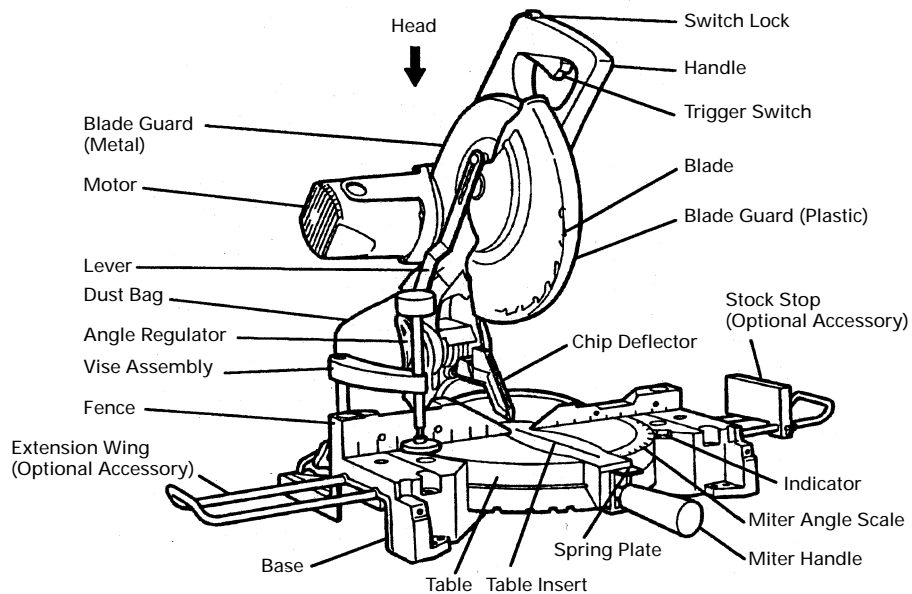
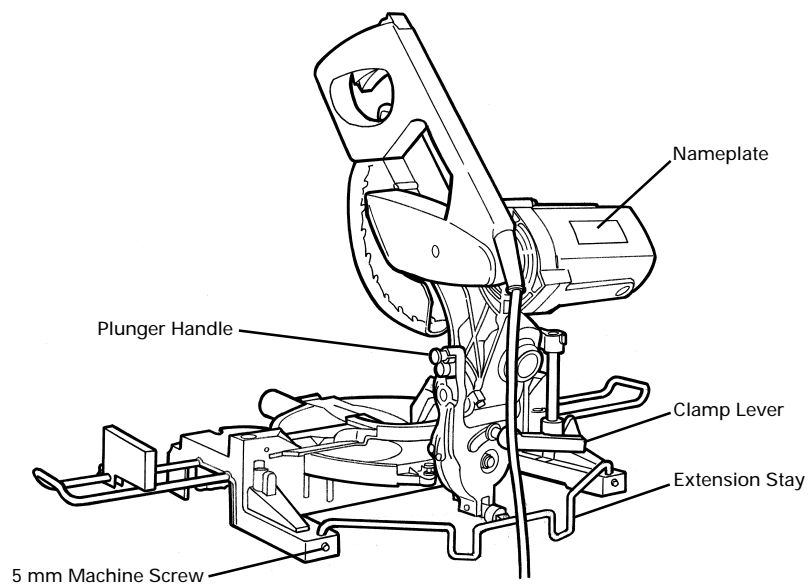
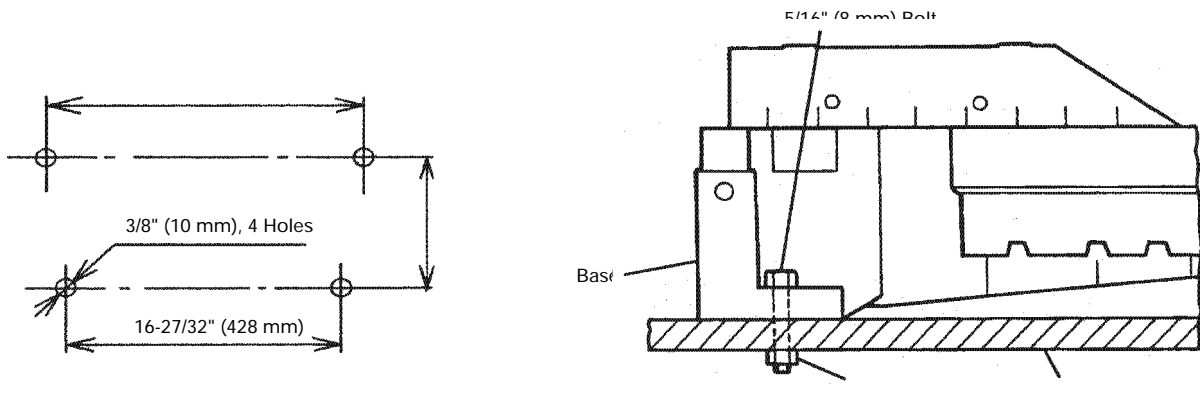

Fig. 1
Fig. 2
Fig. 4
Attach the power tool to a level, horizontal work bench in accordance with Fig. 4. Select 5/16" (8 mm) diameter bolts suitable in length for the thickness of the work bench. Bolt length should be at least 2" (50 mm) plus the thickness of the work bench. For example, use 5/16" (8 mm) 3" (75 mm) bolts for a 1" (25 mm) thick work bench. The extension stay attached to the rear of the base (see Fig. 2) helps stabilize the power tool.
For transportation purpose, grasp the handle (see Fig. 1) with one hand and hold the base at the left end grip section with the other hand to carry.
Attach the dust bag, miter handle, extension wing, stock stop and vise assembly as indicated in Fig. 1 and Fig. 2.
(1) Insert the extension stay into the hole of the base.
(2) Fasten the two 5 mm machine screws and fix an extension stay as indicated in Fig. 2.